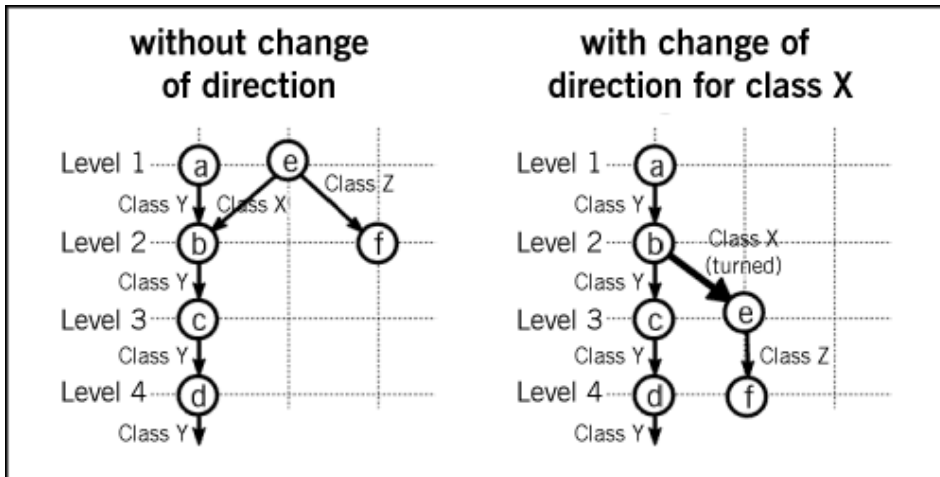

Figure 142: Schematic representation - Change direction
- Change direction:** By activating this parameter setting the direction of an instance of this relation class is turned around internally (see fig. 142, p. 174). If two objects A and B, which are linked through the relation class X have the order "B followed by A" and the order "A followed by B" is actually desired, then direction change should be activated for class X.